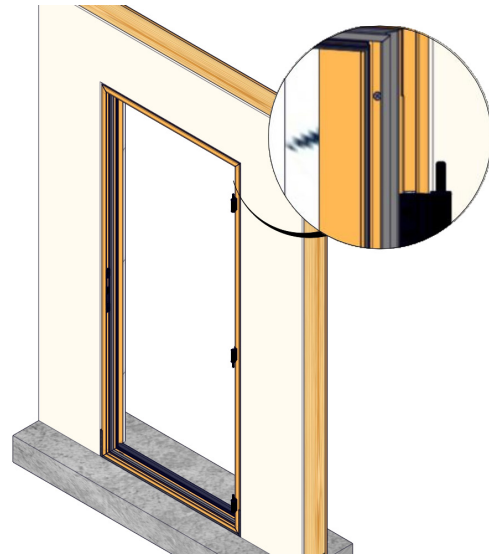

Fig. 7
2. Install and fasten the door unit in place using fasteners by others per anchorage calculations. **Quaker Window Products does not supply or claim liability for anchorage/fastener calculations. It is the installer/client's responsibility for structural adequacy of the anchorage and fasteners.** Typically, 3" from the corners and 16" on center, and at every hinge and lock location. (Fig. 7)